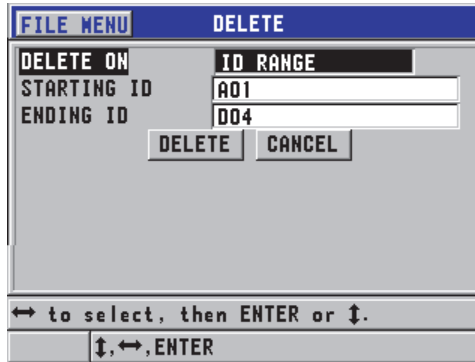

Figure 6-32 Deleting the data of an ID range in the active file
2. In the **DELETE** screen (see Figure 6-32 on page 113), set **DELETE ON** to **ID RANGE**.